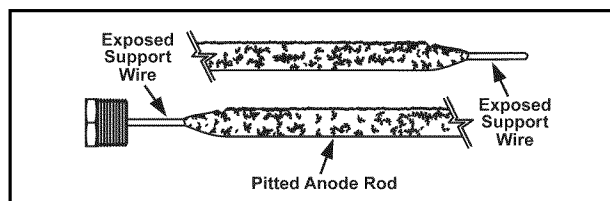

Figure 51
- Significant sections of the support wire (approx. 1/3 or more of the anode rod's length) are visible (see Figure 51).